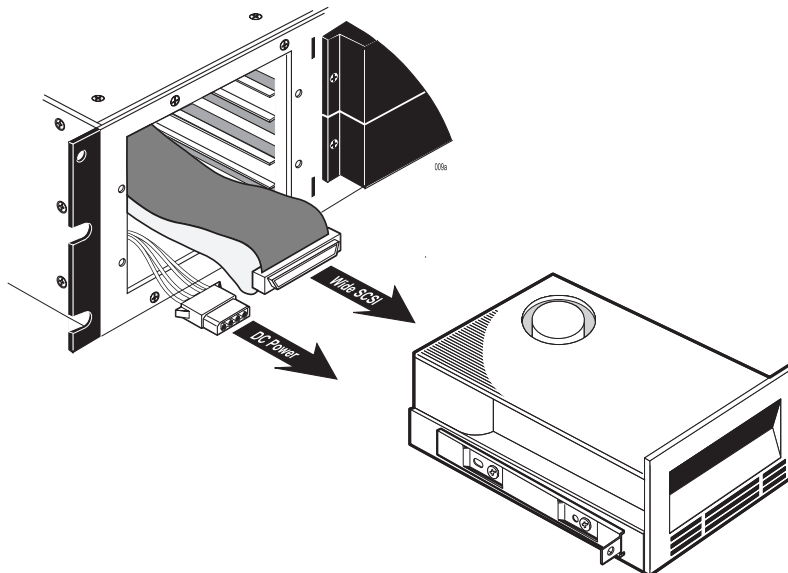

Figure 9: Connecting the DC Power Cable and I/O Cable to the Drive
5. Connect the 4-pin DC power cable to the power connector located on the rear of the device, and the I/O cable to the drive (Figure 9). Verify that the PIN 1 indicator (indicated by a red stripe) on the I/O cable is properly aligned. (Refer to the drive manufacturer's documentation for specific drive formation). The length of these cables should allow easy access to each drive from the front of the NetMEDIA chassis.